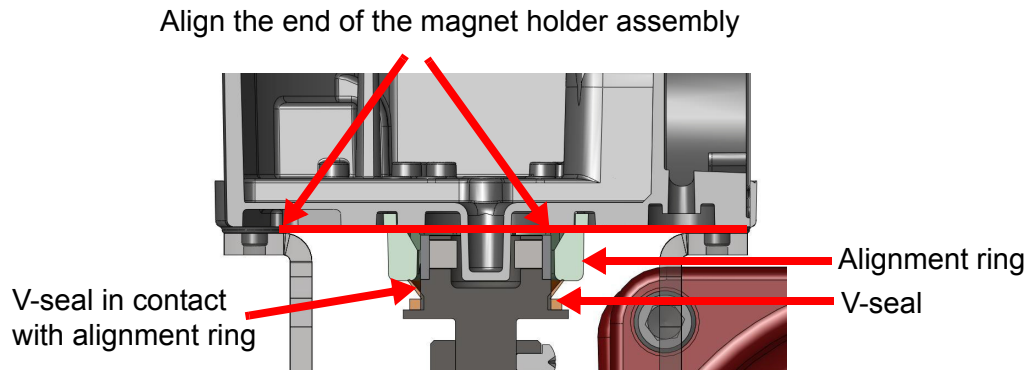

Figure 11 Camflex V-Seal
- Ensure that the V-Seal makes contact with the skirt around the alignment ring on the SVi1000 (Figure 11).